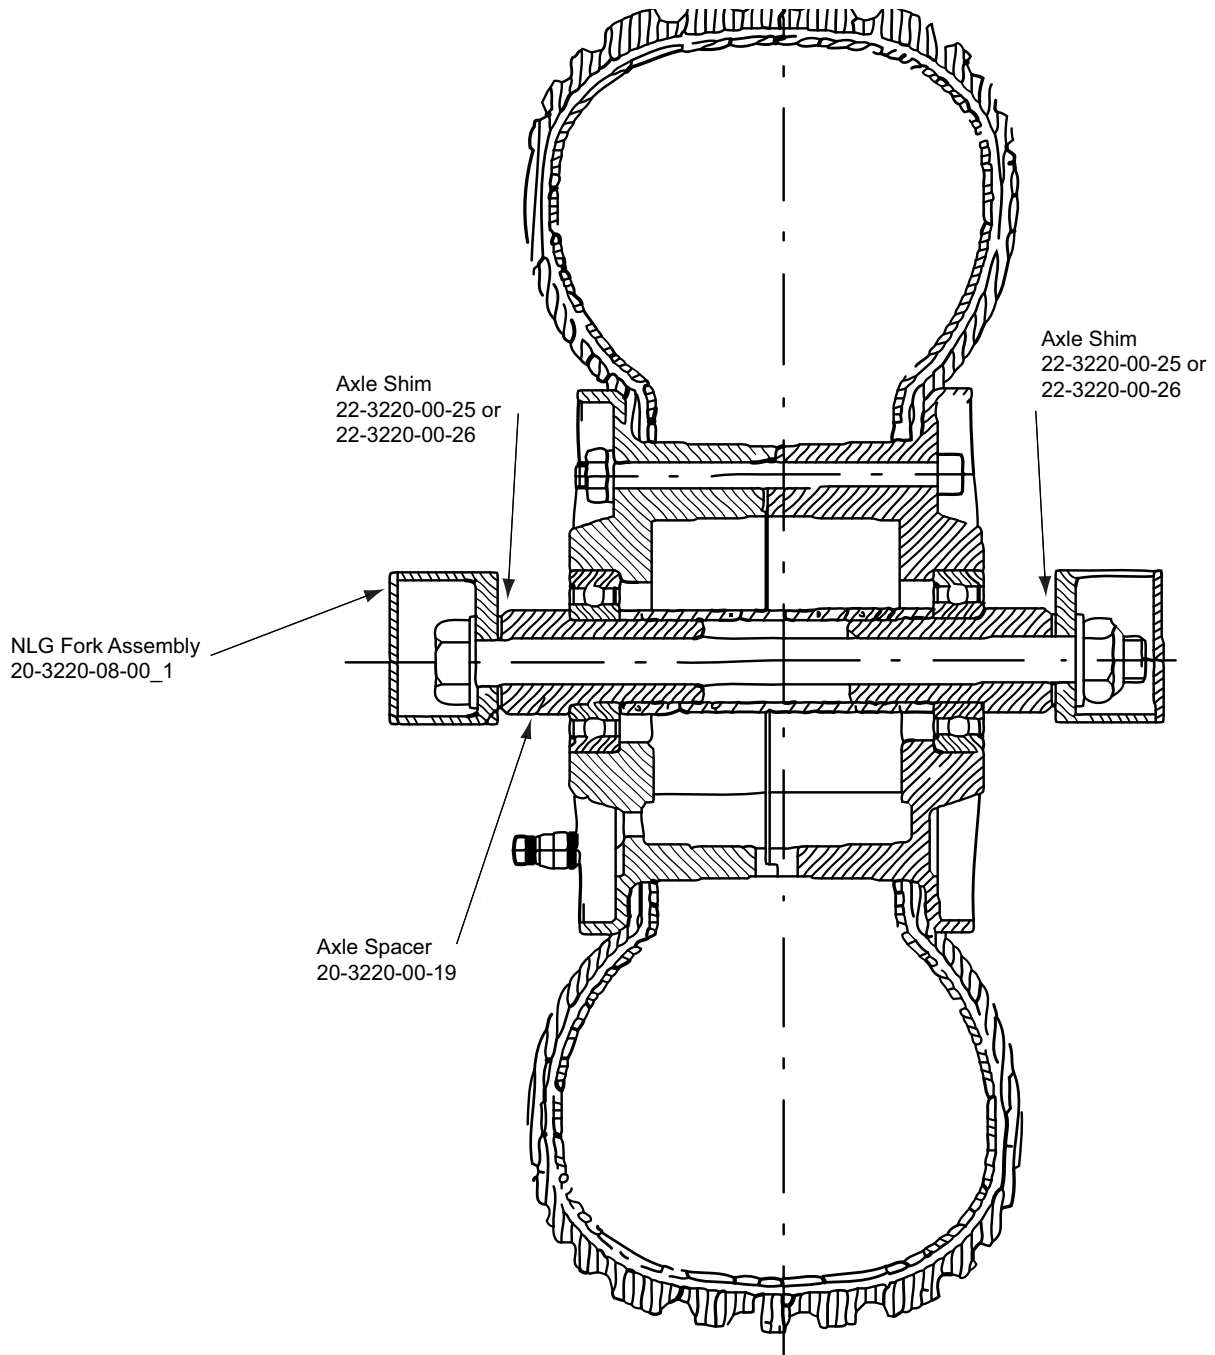

Figure 2 - NLG Wheel Installation with Shims
- 10.8 Re install the wheel and use the shims to eliminate the gap between the axle spacer (20-3220-00-19) and the fork. Use a maximum of two shims and divide the shim installation evenly from side to side. Maximum difference between sides is 0.010". See figure 2.